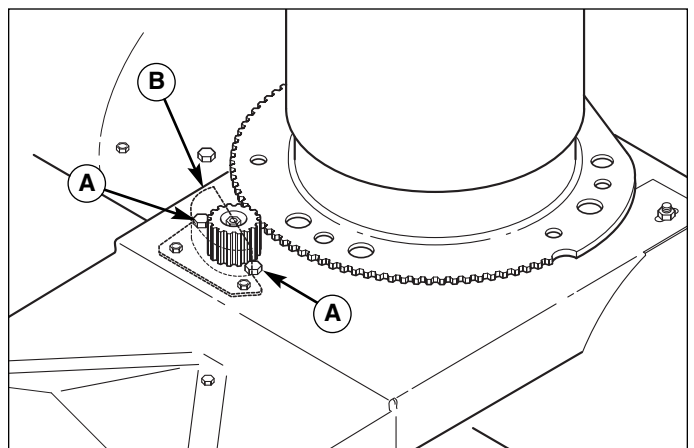
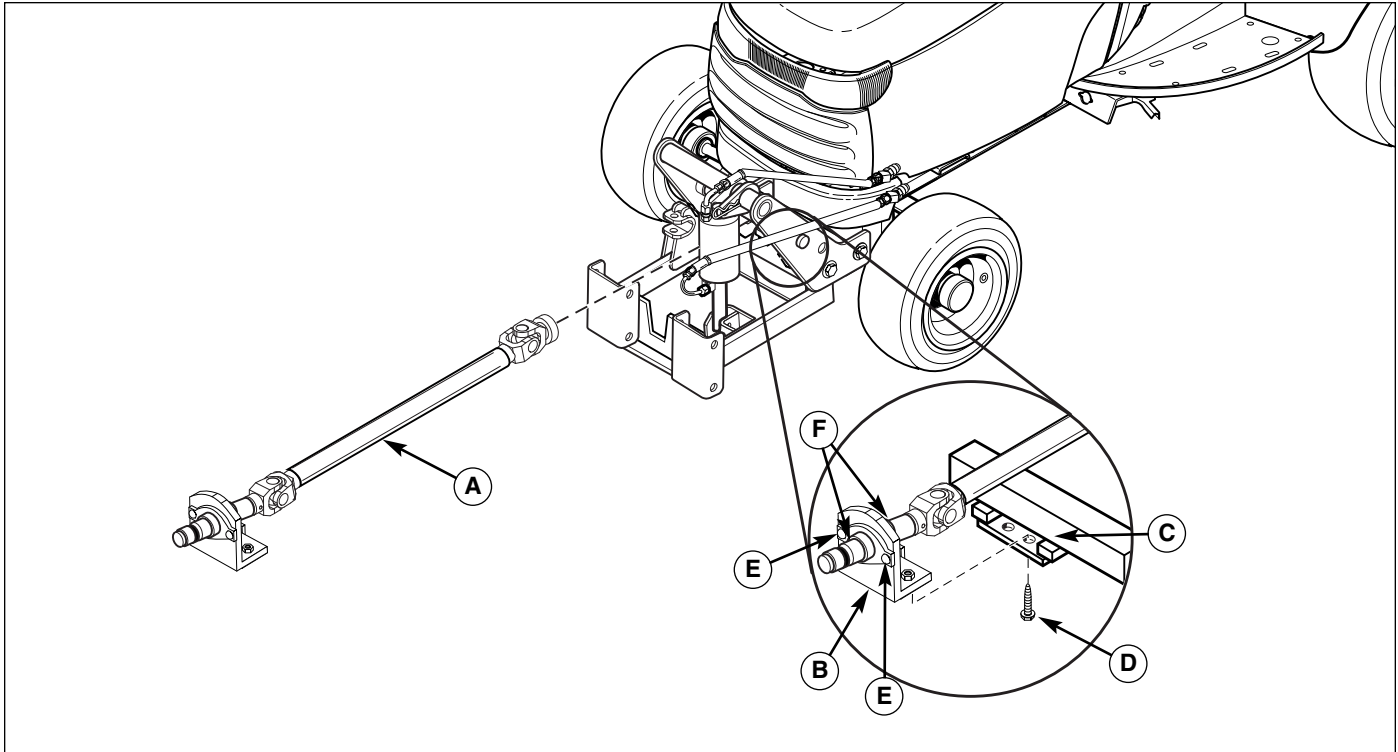
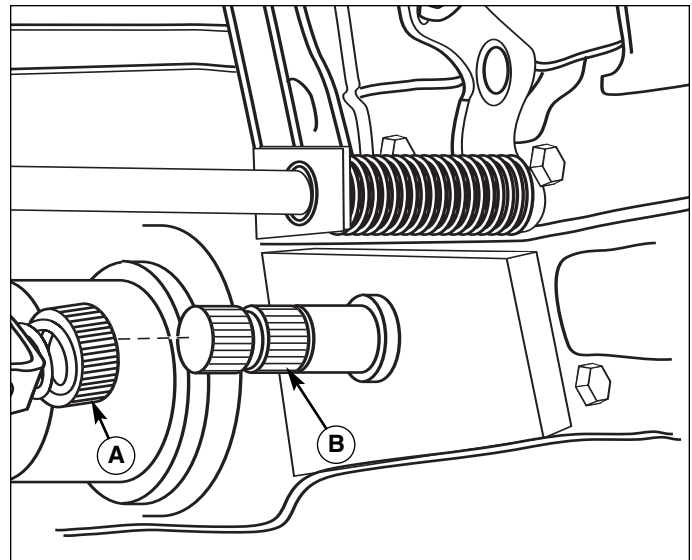

Figure 13. Discharge Chute Motor Gear Adjustment
Figure 15. Front Hitch Mounting Brackets
Figure 16. Attachment Lift Extension
1. Remove the plastic cover (B, Figure 13) and loosen the three taptite screws (A) securing the electric spout rotator motor.
2. Adjust the motor so that it meshes with the discharge chute ring gear and tighten the adjustment screws (A).
1. Slide the drive shaft (A, Figure 15) in from the front. Line up the support bracket (B) with the front hitch (C). Simultaneously line up the the locking collar of the drive shaft (A, Figure 16) with the PTO drive of the transmission (B).
2. Slide the support bracket (B, Figure 15) in to the front hitch (C) about 1/2". Connect the locking collar (A, Figure 13). Pull back on the locking collar (A) and slide the drive shaft fully onto the transmission (B). Release the locking collar and pull back on the drive shaft until the locking collar locks onto the shaft.
4. Slide the support bracket (B, Figure 15) all the way into the front hitch (C). The support bracket (B) should be touching the front hitch. Tighten cap-screws (D).